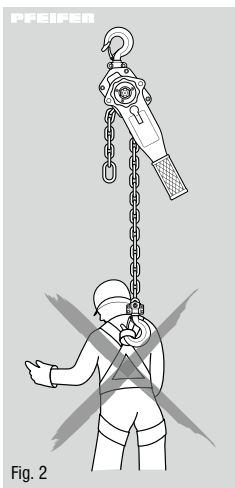

Fig. 2
- Using the hoist to transport people is forbidden (Fig. 2).